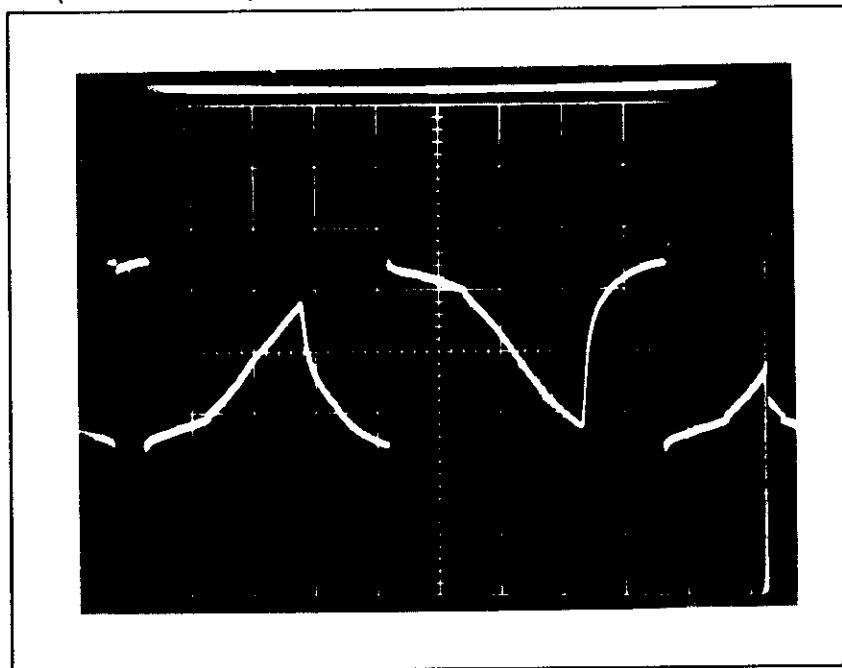

Figure 2: Triac conduction at full power, viewed at MT2.
- 1) Note the maximum triac conduction angle at MT2, as shown in Figure 2.